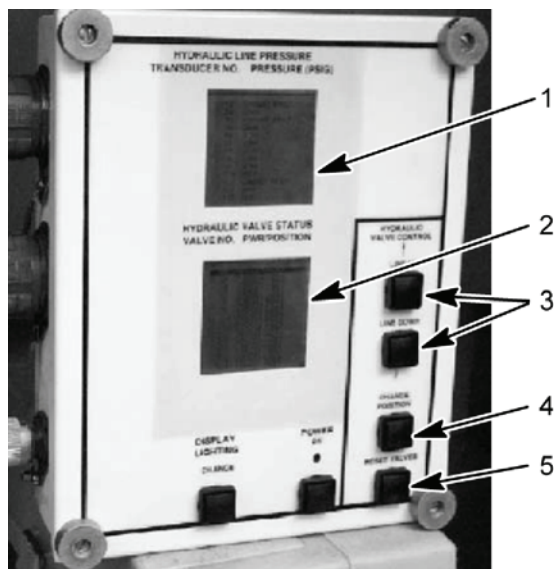

Figure 11. HDC Control Box
- Using LINE UP or LINE DOWN button (Figure 11, item 3) select V1 on the HDC display (Figure 11, item 2). Close V1 on the HDC display (Figure 11, item 2) by selecting the change position button (Figure 11, item 4) on the HDC control box.